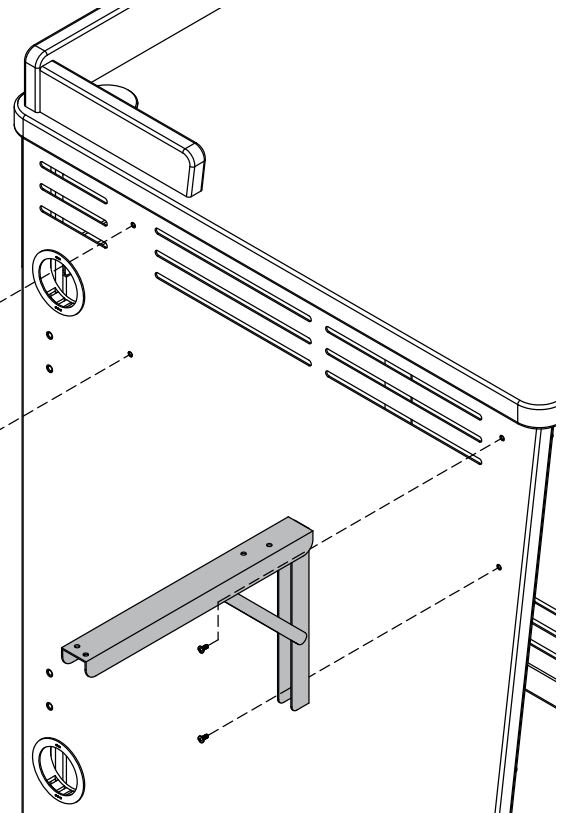

Figure 1
2. Extend and lock the folding shelf brackets into the horizontal position. **Figure 1**.
3. Align and attach each bracket to the side of the lectern with (2) 8-32 x 1/2" PH thread-cutting screws. Do not tighten these screws completely yet.